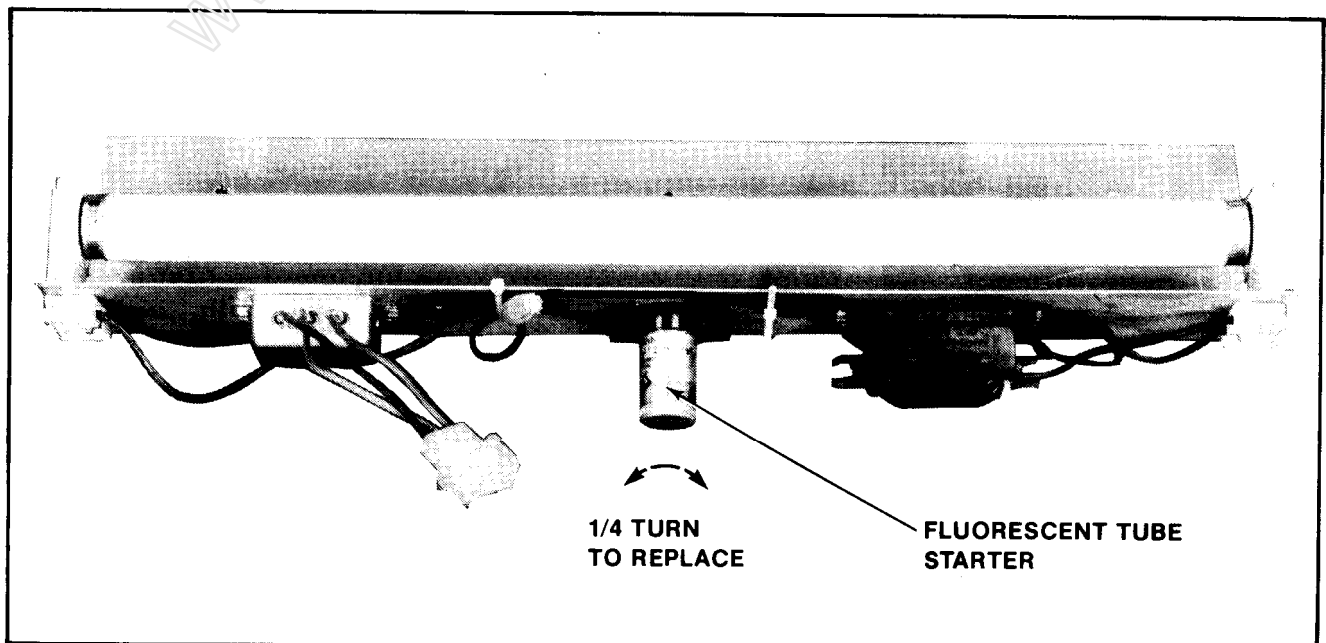

Figure 2-53 Replacing the Fluorescent Tube Starter - Upright
**WARNING:** If you drop a black light tube and it breaks, IT WILL IMplode! Shattered glass can fly six (6) feet or more from the implosion. Use care when replacing any black light tube.
- Replacing the black light tube starter. See Figure 2-53.